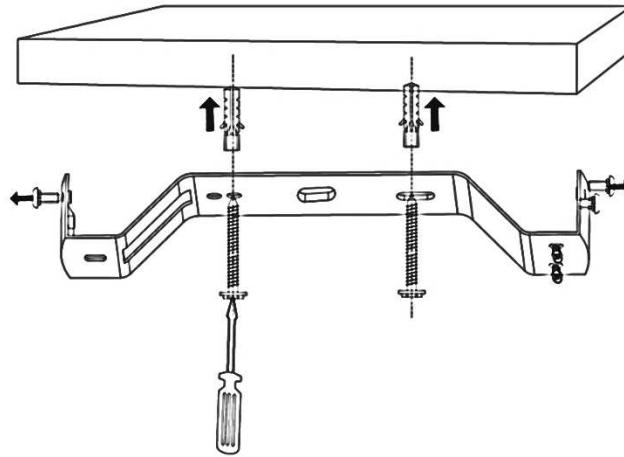

Fig. 2
- Remove the screws from mounting bracket (Fig.2) and motor bracket. Fig.3